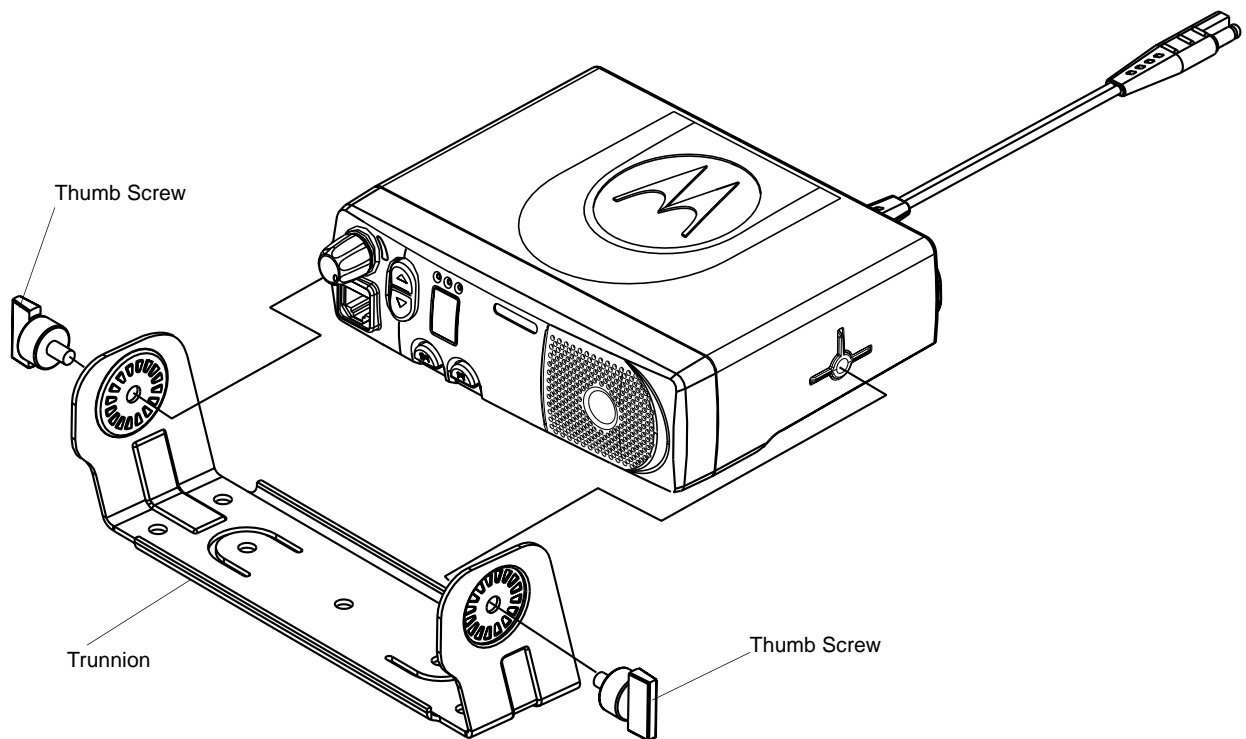

Figure 3-2. Radio into Trunnion
5. Attach the radio to the locking bracket using two machine screws and two external tooth lockwashers. Tighten using a T25 Torx® driver. (Figure 3-2.)